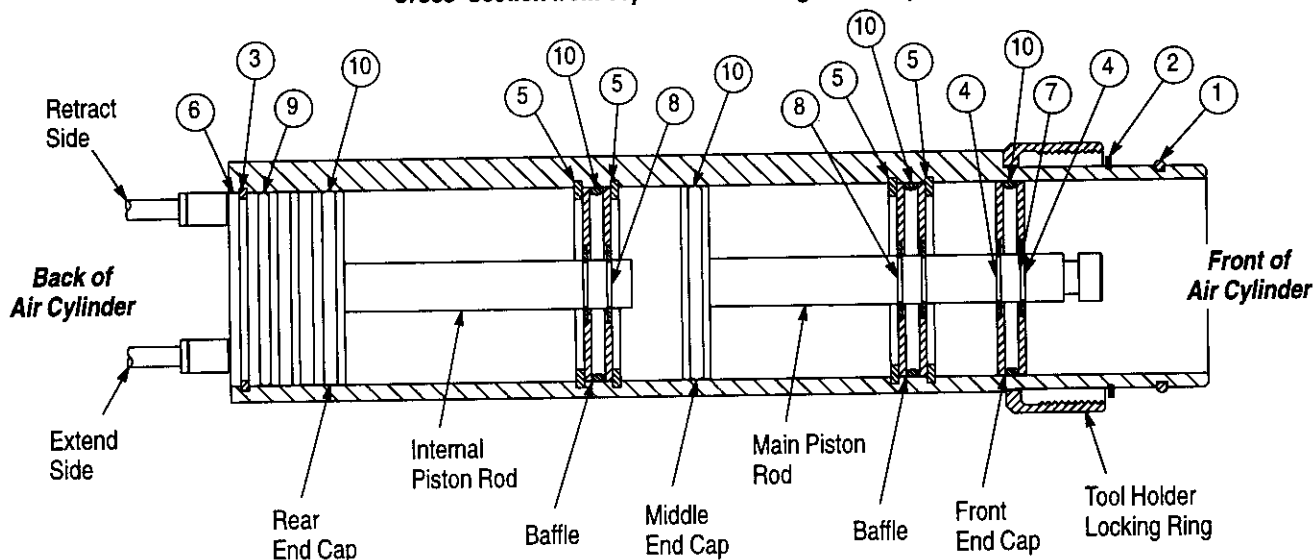

Figure 1
AMP Seal Kit 217434-1 consists of a retaining wire, friction ring, and various retaining rings and O-rings (listed in Figure 1) used to replace worn components on AMP "6-26" Pneumatic Tooling Assemblies. For detailed information concerning the pneumatic tooling assemblies, refer to AMP Customer Manual 409-5862.
17. Referring to Figure 1, re-assemble the air cylinder following Steps 1 through 14 *in reverse order*.